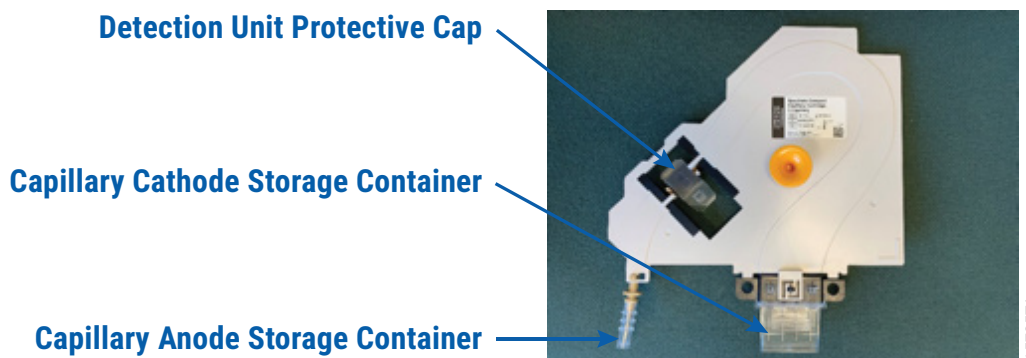
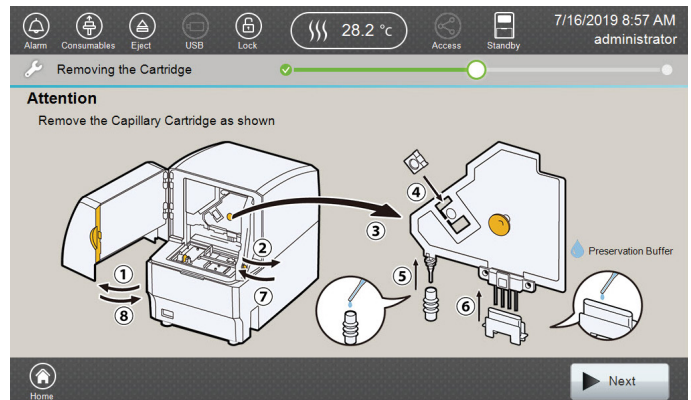

Figure 35. Spectrum Compact Capillary Cartridge protective covers.
Figure 40. 'Removing the Cartridge' screen.
- Remove the protective covers from the detection unit, anode and cathode (Figure 35). Save these if you intend to store the array outside of the instrument at a later date (see Section 3.3).
4. Select **Next**. A warning dialog stating 'Autosampler is moving. Do Not open door' is displayed while the status indicator flashes green. The status indicator returns to steady green when the 'Removing the Cartridge' screen is displayed (Figure 40).
5. Open the instrument door when the 'Removing the Cartridge' screen is displayed (Figure 40).
8. Hold the yellow gripping knob on the front of the Spectrum Compact Capillary Cartridge (Figure 41). Detach by lifting the bottom portion of the capillary cartridge out first, followed by the top left part by the detection unit, as indicated by Step 3 of Figure 40.
9. Attach the detection unit cover on the detection unit as indicated in Step 4 of Figure 40.
10. Fill the capillary anode cover (Figure 35) with 400 μ l of Capillary Preservation Buffer. Slide the filled capillary anode cover onto the anode as indicated in Step 5 of Figure 40.
11. Fill the capillary cathode cover (Figure 35) with 4ml of Capillary Preservation Buffer. Attach the filled capillary cathode cover onto the cathode as indicated in Step 6 of Figure 40.
13. Close the door of the oven unit and the front door of the instrument. The status indicator flashes amber while autosampler returns to home position, then returns to steady green. Select **Next** on the 'Removing the Cartridge' screen (Figure 40), followed by **Finish** on the subsequent 'Uninstall Completed' screen.